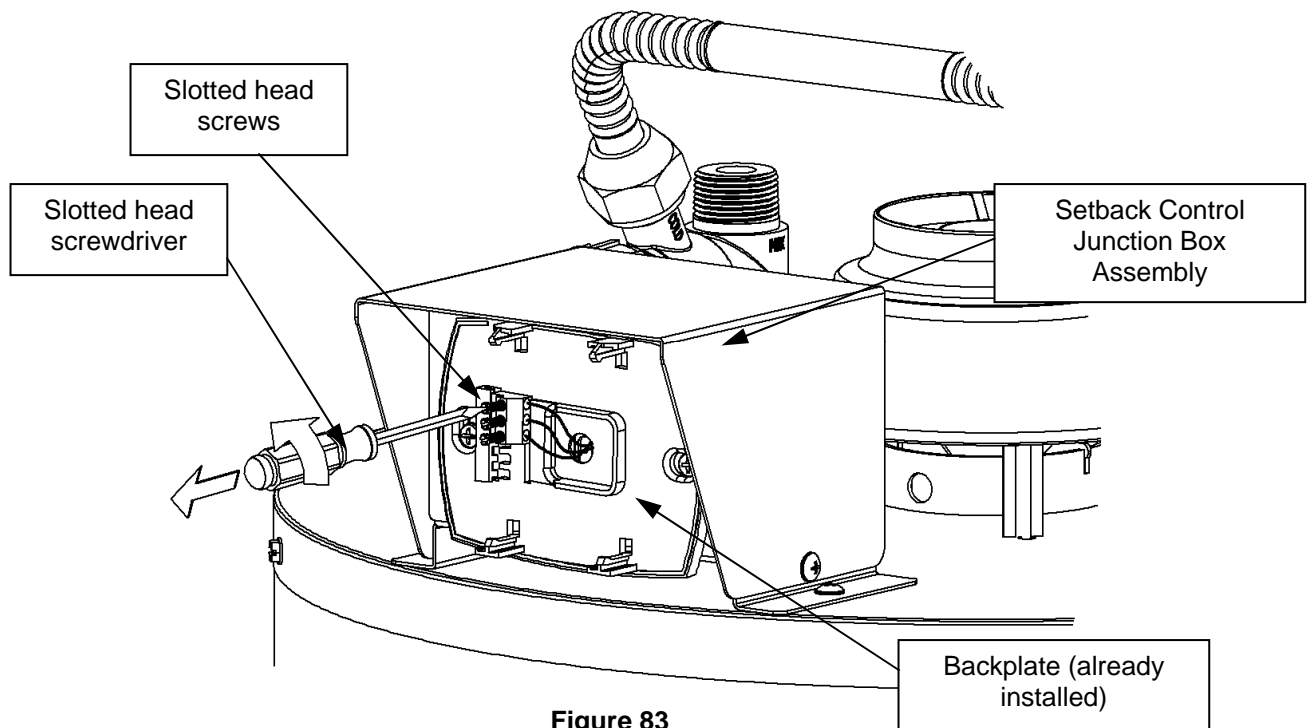

Figure 83
Step 2: Loosen the (3) slotted screws on the backplate attached to the Setback Control Junction Box Assembly. This is shown in Figure 83.